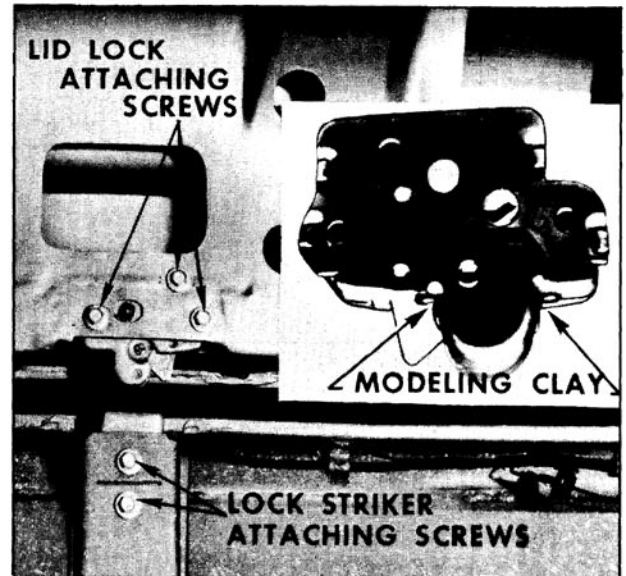

Fig. 16-462 Lid Lock and Striker
2. Remove lid lock attaching screws (Fig. 16-462) and remove rear compartment lid lock. On styles equipped with rear compartment lid lock vacuum release option, remove vacuum release unit prior to lock removal.
2. Remove striker attaching screws (Fig. 16-462) and remove striker.
- a. Insert a small quantity of modeling clay on frame of lock on both sides of lock bolt. (Fig. 16-462) Close lid with moderate force.